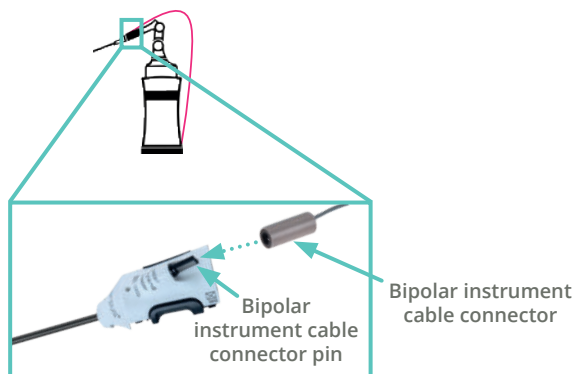

Figure 10.13 Connecting the bipolar instrument cable to the instrument
1. The connector pin on the bipolar instrument (Figure 10.13)